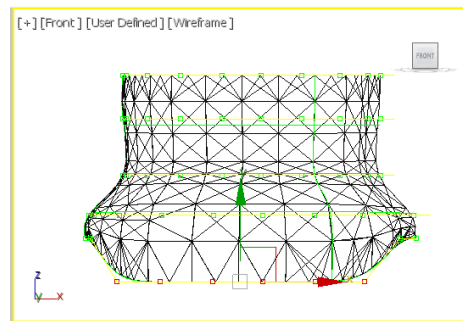

Figure 15-91 The outer control vertices moved vertically
9. Select the **Curve CV** sub-object level; all control vertices are displayed in the viewport. Now, select the outer control vertices of the bottom curves, refer to Figure 15-91. Next, move them until the value in the **Y** spinner in the coordinate display becomes about **15**, as shown in Figure 15-91.